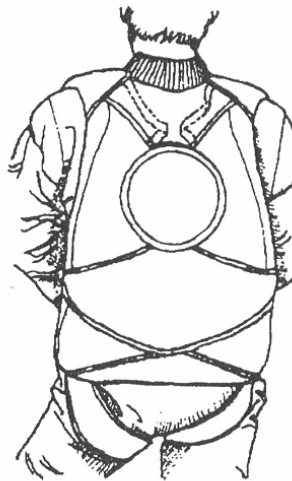

Figure 5.
Step 11. Mate the pile Velcro on the yoke to the hook Velcro on the RSL and stow the remaining RSL length under the yoke flap above the reserve freebag. (see Figure 5.)